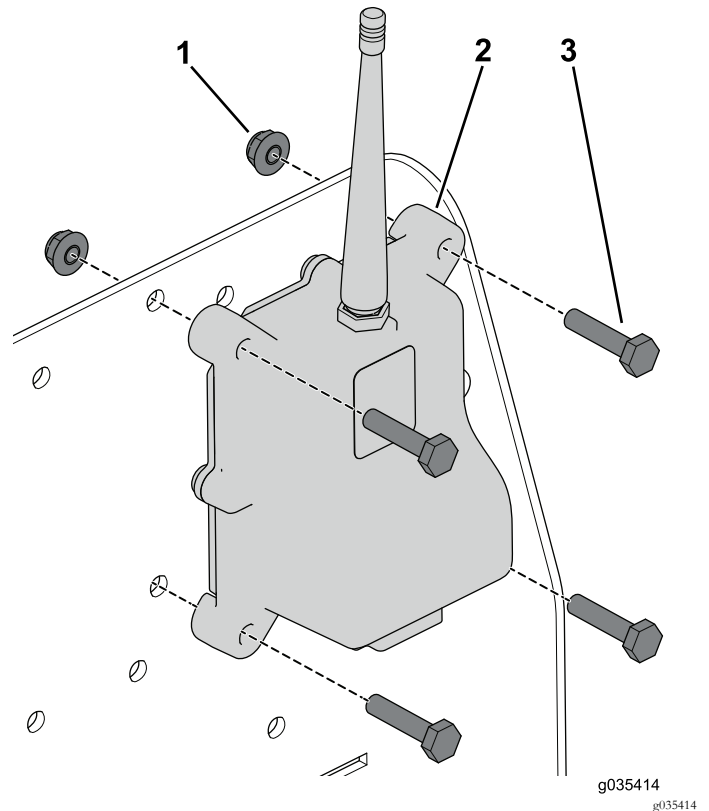

Figure 11
1. Use the 4 bolts (1/4 x 3/4 inch) and flange nuts to secure the transceiver (Figure 11).